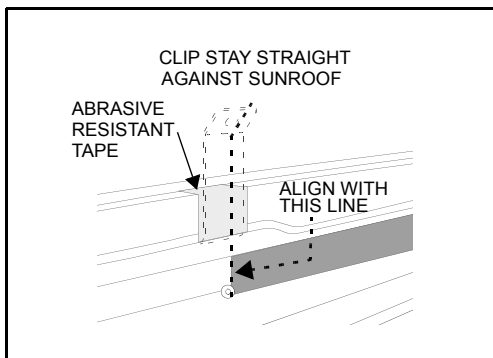

Figure 6.
6. Align the clip so that the inward edge of the hole aligns with the detail line (as shown in Figure 6) and make a note of the position of the clip. Remove the clip and install the abrasive resistant tape central to the clip's position as shown in Figure 6 and the inset.